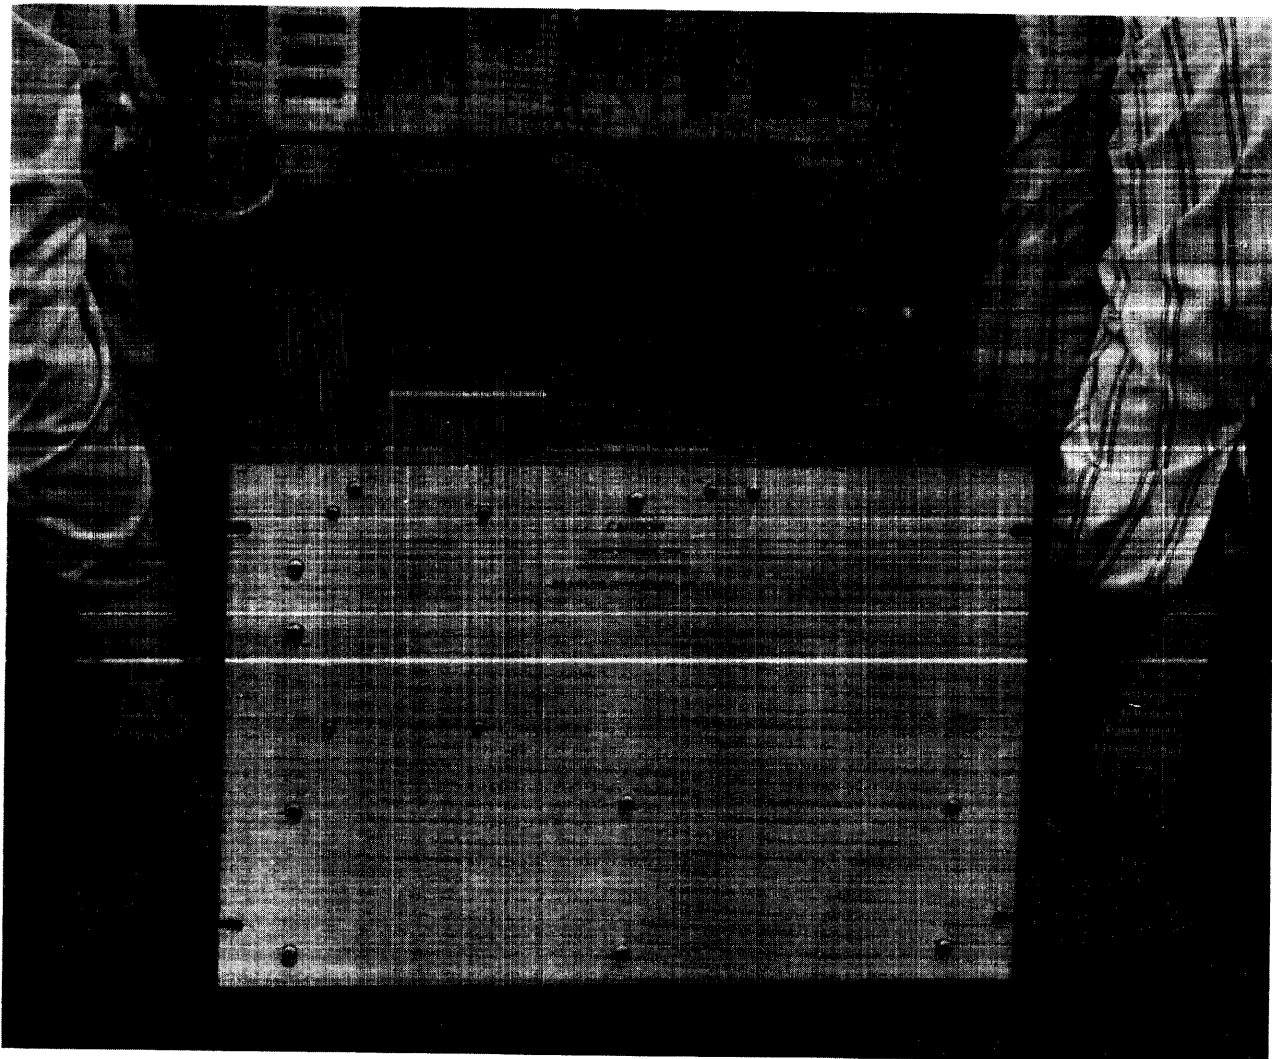

Figure 6-1. Logic Power Supply Removal and Replacement
- d. Release the extension locks on the supply sides, and lift the supply from the cabinet. Refer to figure 6-1.